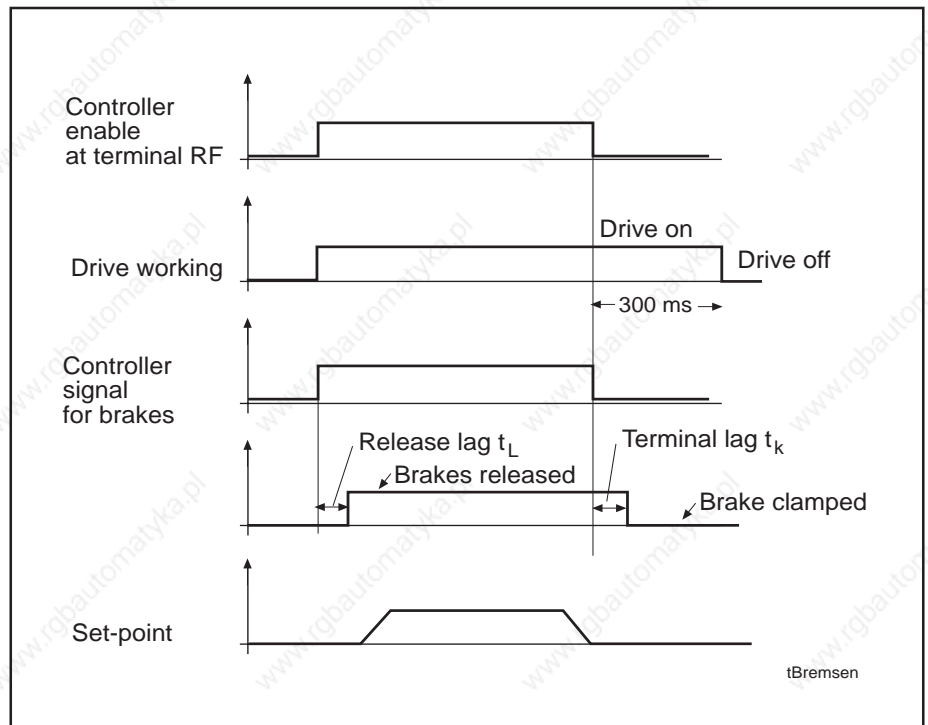

Figure 73: Intervals for clamping and releasing the blocking brake during operation. The  $t_K$  and  $t_L$  values are listed in the motor data sheets.
- The mechanical brake must be released **prior** to running the drive (Fig. 73) to avoid wear and tear.